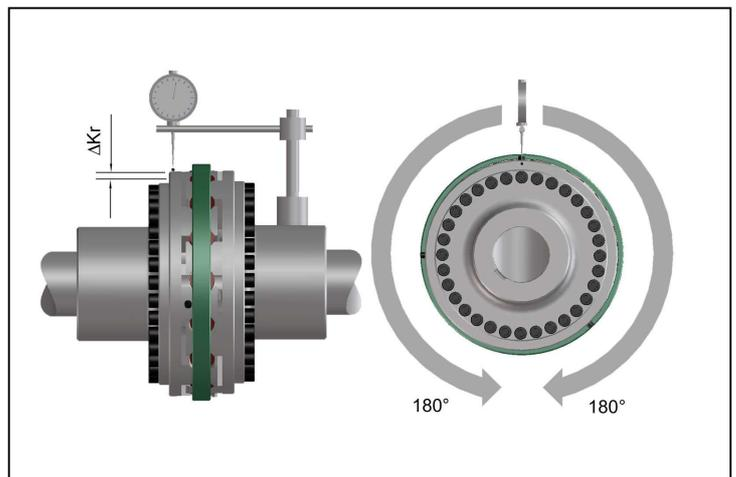

Fig. 9
- Measure one complete revolution (360°). Determine the largest deviation  $K_{r1}$  and the smallest deviation  $K_{r2}$  (Fig. 9).